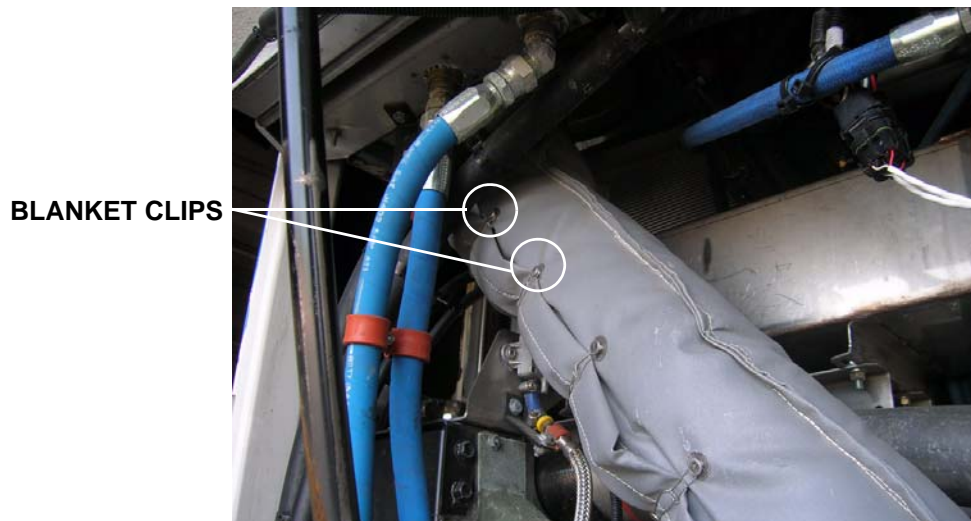

Figure 1-1 Exhaust Blanket Clips
3. Undo the top exhaust flex pipe blanket clips. See Figure 1-1